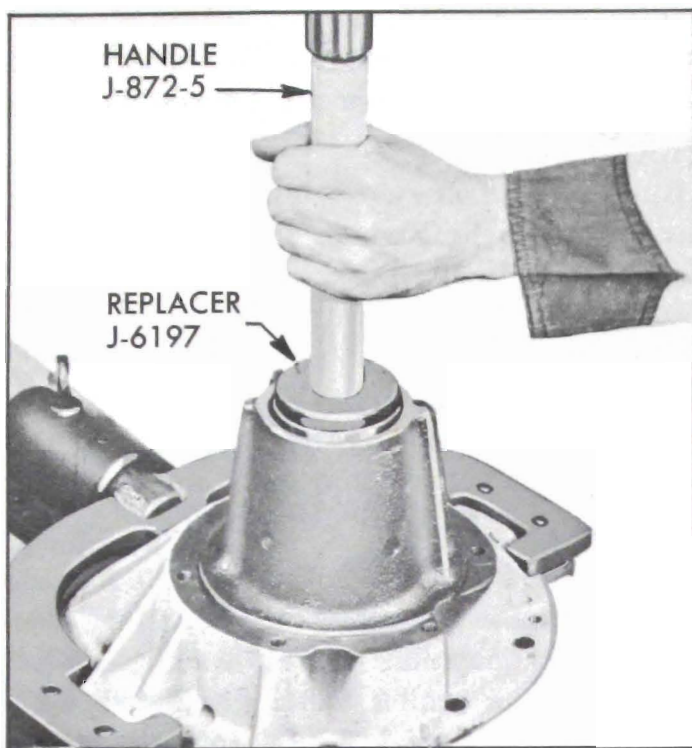

Figure 6-21—Installing Front Pinion Bearing Outer Race
1. Drive front pinion bearing outer race against shoulder in carrier using Replacer J-6197 with driver handle. See figure 6-21.